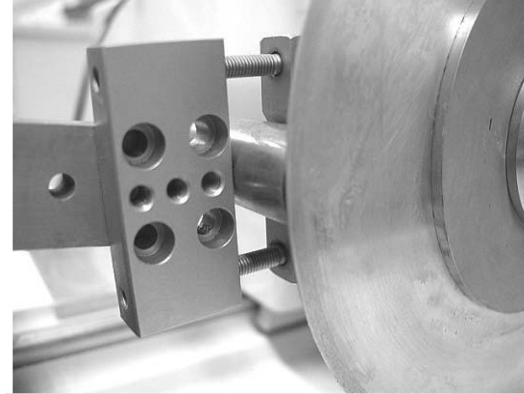

Figure 8 Blade traveling the width of the cut
- d. Turn the hand crank counter-clockwise until the blade travels the width of the cut (see Figure 8).